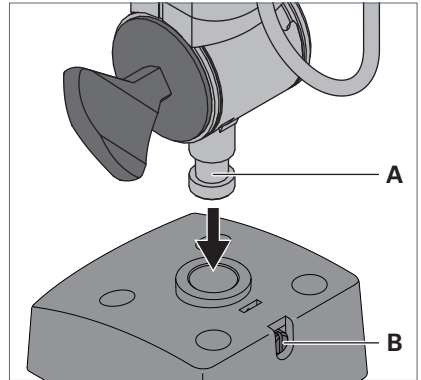

Fig. 2: Mounting the luminaire to the fastening element.
- Insert the stud **A** on the luminaire column into the opening of the fastening element, see Fig. 2